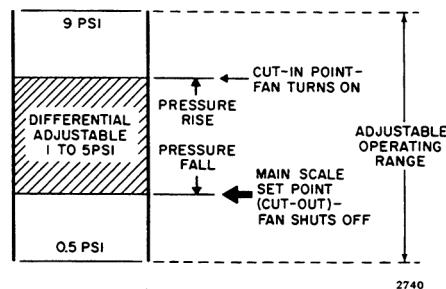

Fig. 9. PA404B (additive differential).
**TO SET THE PA404B WITH ADDITIVE DIFFERENTIAL (SEE FIG. 9)**